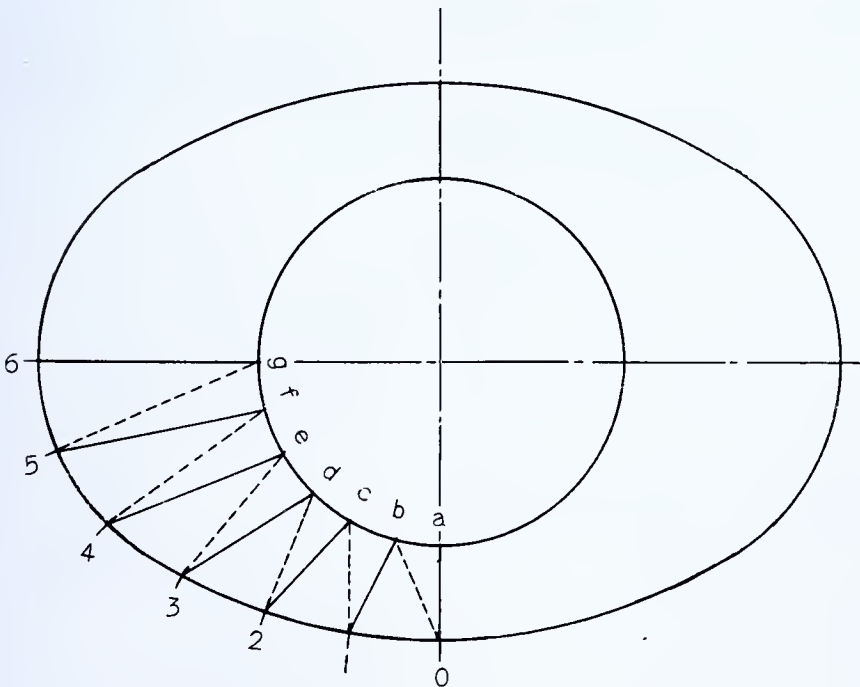
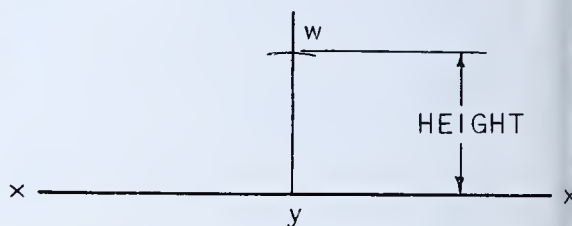

FIG. 323 — *Division Points Connected*
FIG. 324 — Steps 8 to 10, Inclusive
6. Connect the division points on the *a-g* circle to the division points on the 0-6 oval with full lines as shown in Fig. 323.
7. Connect the division points on the *a-g* circle to the division points on the 0-6 oval with dotted lines as shown in Fig. 323.
8. Scribe a line as shown at *x-x* in Fig. 324, long enough to pick up the distances shown at *g-5* and *g-6* in Fig. 323.
11. Set the trammels to distance *o-a* in Fig. 323 (full line).
13. Set the trammels to distance *l-b* in Fig. 323.
16. Set the trammels to distance  $o-b$  in Fig. 323 (dotted line).